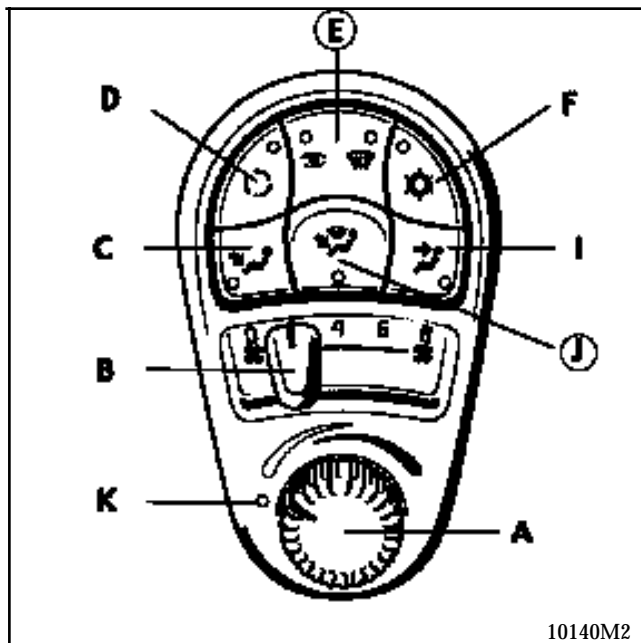

Fig. 3
- Apply the procedure for self-setting of the heater controls if necessary (if the three **LED C.L.J.** (see Fig.3) are permanently illuminated).